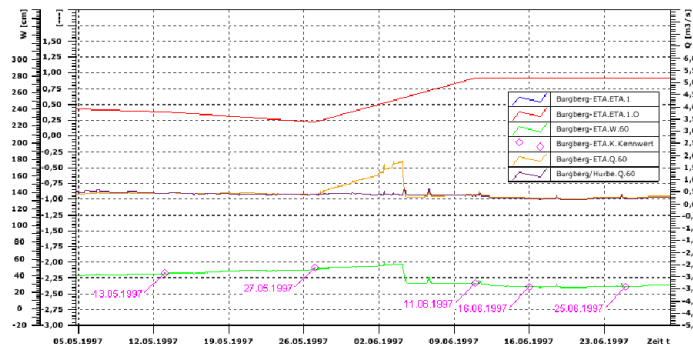

Fig. 226 Weed removal of the measuring cross section
- Activate the **<Add values>** button to add extrapolation points directly before and after the weed removal (see Fig. 226, page 325).